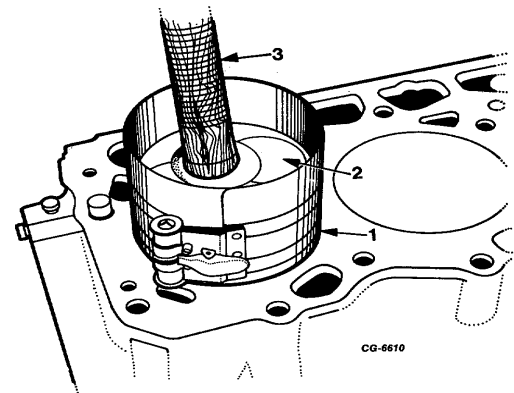

Fig. 148 Installing Piston and Connecting Rod Assembly
- c. Coat No. 1 cylinder bore with clean engine oil. Position piston and rod assembly in cylinder bore with word "TOP" marked on piston toward centerline of engine block. Carefully push piston and rod assembly through ring compressor (Figure 148) until piston is in cylinder bore. Avoid striking cylinder bore with connecting rod.